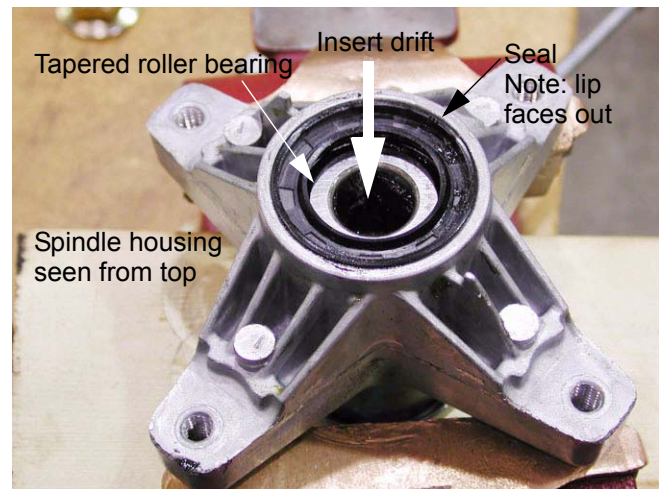

Figure 5.3
- 5.3. Using soft drift, remove the bottom bearing from the spindle housing. See Figure 5.3.